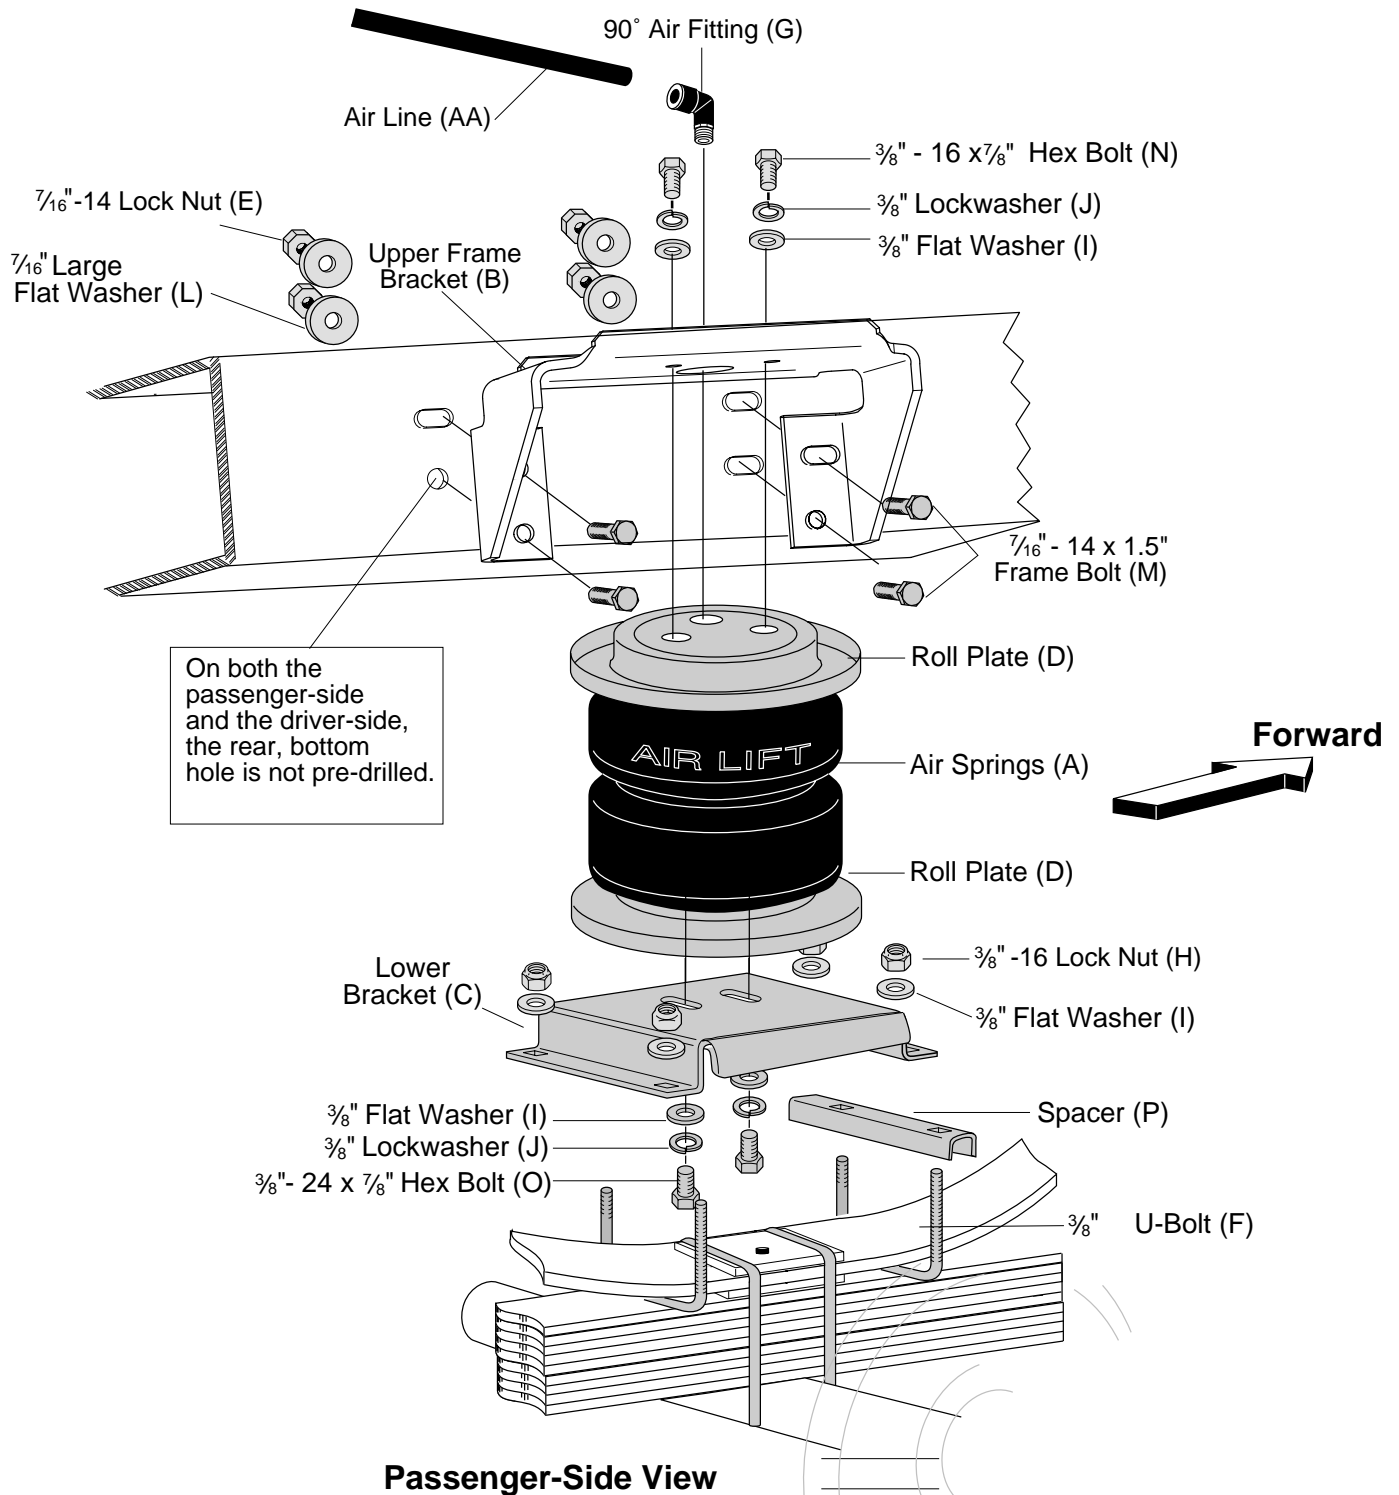
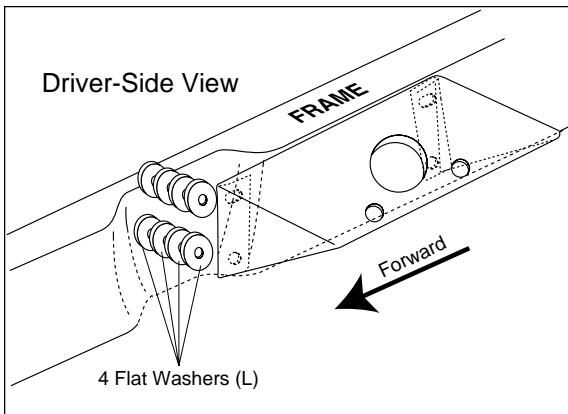

Figure 1
Figure 4
1. Set a roll plate (D) on both ends of the air spring (A). The radiused (rounded) edge of the roll plate will be towards the air spring so that the air spring is seated in both roll plates (Figure 1).
2. Install a 90° swivel air fitting (G) finger tight plus 1½" turns (Figure 1). Use a 9/16" open end wrench, being careful to tighten on the metal hex nut only. *Do not overtighten.* This fitting is precoated with sealant.
3. Place the upper bracket (B) onto the top of the bellows and roll plate with the legs facing down. Guide the swivel fitting through the large hole in the center (Figure 1).
4. Place the lower bracket (C) on the air spring so that the flat edge of the lower bracket mounts toward the legs of the upper bracket (inboard). See Figure 1.
5. Attach the upper bracket to the assembly using 3/8" flat washers (I), lock washers (J), and hex head bolts (N). Remember that the legs face down (Figure 1). Tighten securely.
6. Loosely attach the lower bracket to the bellows using 3/8" flat washers (I), lock washers (J), and hex head bolts (O) (Figure 1).
1. Set the air spring assembly on the leaf spring over the axle (Figure 1).
1. Place the short U-bolts (F) under the frame contact overload springs with the threads facing up (Figure 1).
2. Place the spacer (P), legs down, on the front leg of the lower bracket between the frame contact overload and the lower bracket (Figure 1).
3. Attach the lower bracket to the frame contact overload using $\frac{3}{8}$ " flat washers (I) and $\frac{3}{8}$ " lock nuts (H) (Figure 1).
2. Using the bottom, rear hole of the upper bracket as a template, center punch and drill one $\frac{7}{16}$ " hole through the frame (Figure 1).
4. Attach the upper bracket using $\frac{7}{16}$ " frame bolts (M), $\frac{7}{16}$ " large flatwashers (L), and $\frac{7}{16}$ " lock nuts (E).
NOTE FOR DRIVER-SIDE ONLY: There is an indent in the frame for the shock bracket. When installing the upper bracket, it will be necessary to add four $\frac{7}{16}$ " flat washers (L) on the top and bottom bolts between the frame and the bracket to properly mount the upper bracket. Fastening hardware is the same as listed in the previous step with the addition of the flat washers (L) (Figure 4).